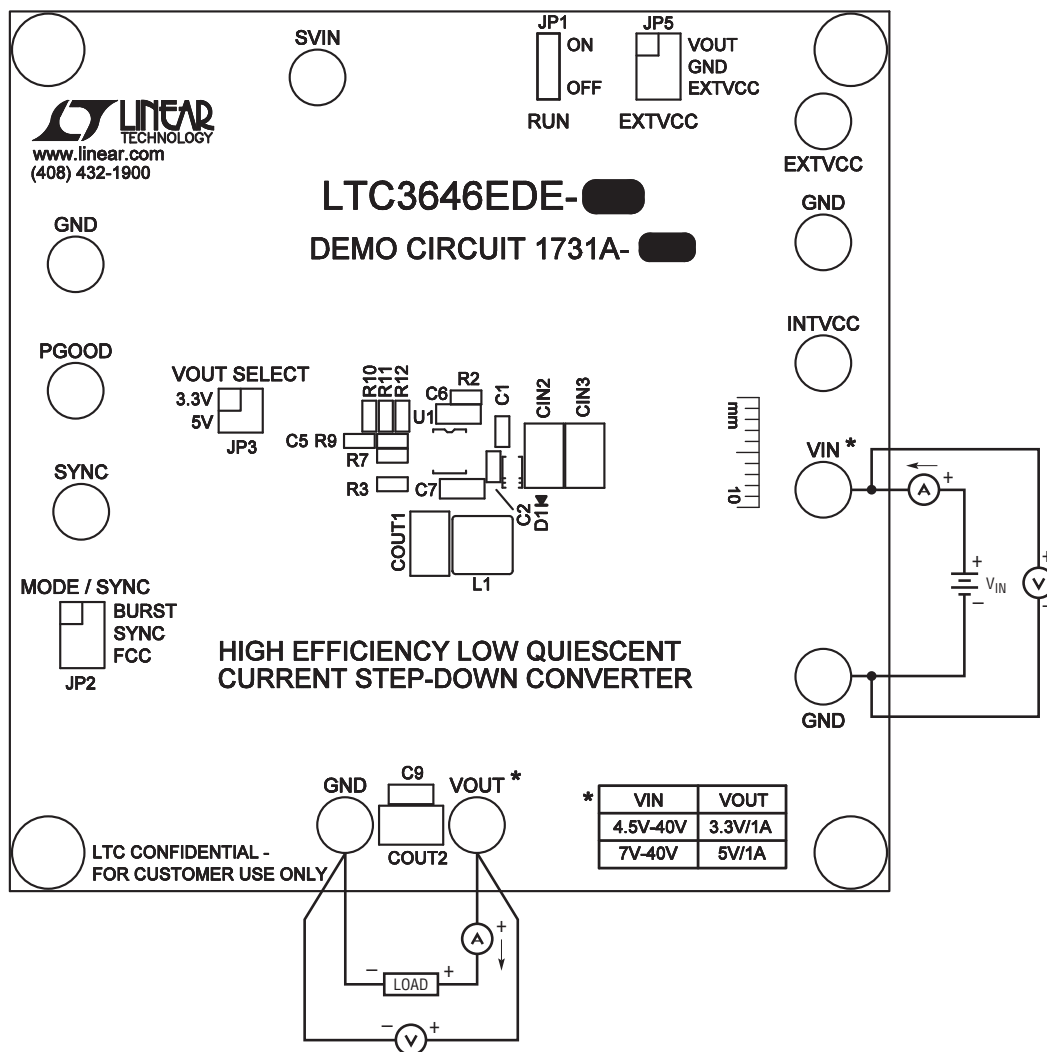

Figure 1. Proper Measurement Equipment Setup
Demonstration circuit 1731A is an easy way to evaluate the performance of the LTC3646/LTC3646-1. Please refer to Figure 1 for proper measurement equipment setup and follow the procedure below:
2. With power off, connect the input power supply, load and meters as shown in Figure 1. Preset the load to 0A and VIN supply to be 0V.